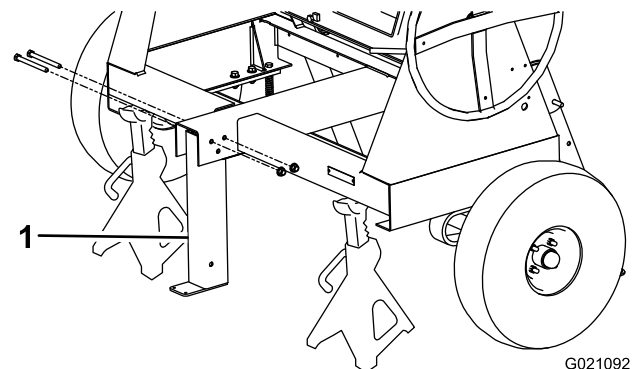

Figure 2
3. Remove the 2 nuts and bolts that secure the front stabilizer leg to the frame (Figure 2), and remove the front stabilizer leg.